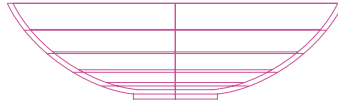

Fig. 14.18 Second example – 3D Mirror – the 3D model
1. Construct a solid of revolution in the shape of a bowl in the **3D Navigate/ Front** view working on a layer of colour **magenta** (Fig. 14.18).